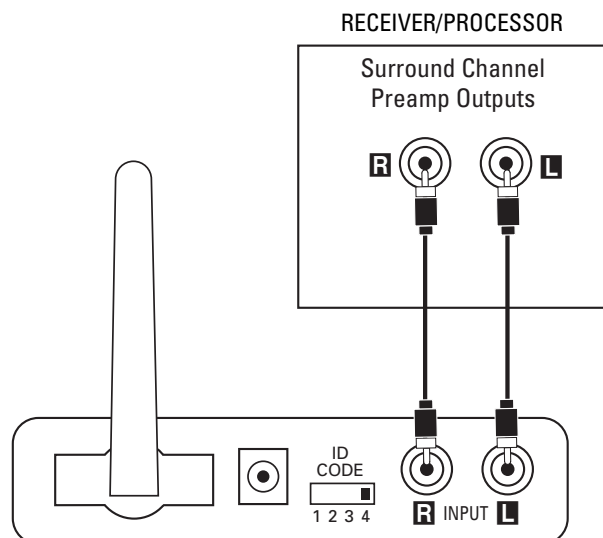

Figure 1.
Connect the interconnect cable (included) to the left and right surround/rear preamp outputs on the back of your source and the input on the transmitter module ⑭, as shown in Figure 1.